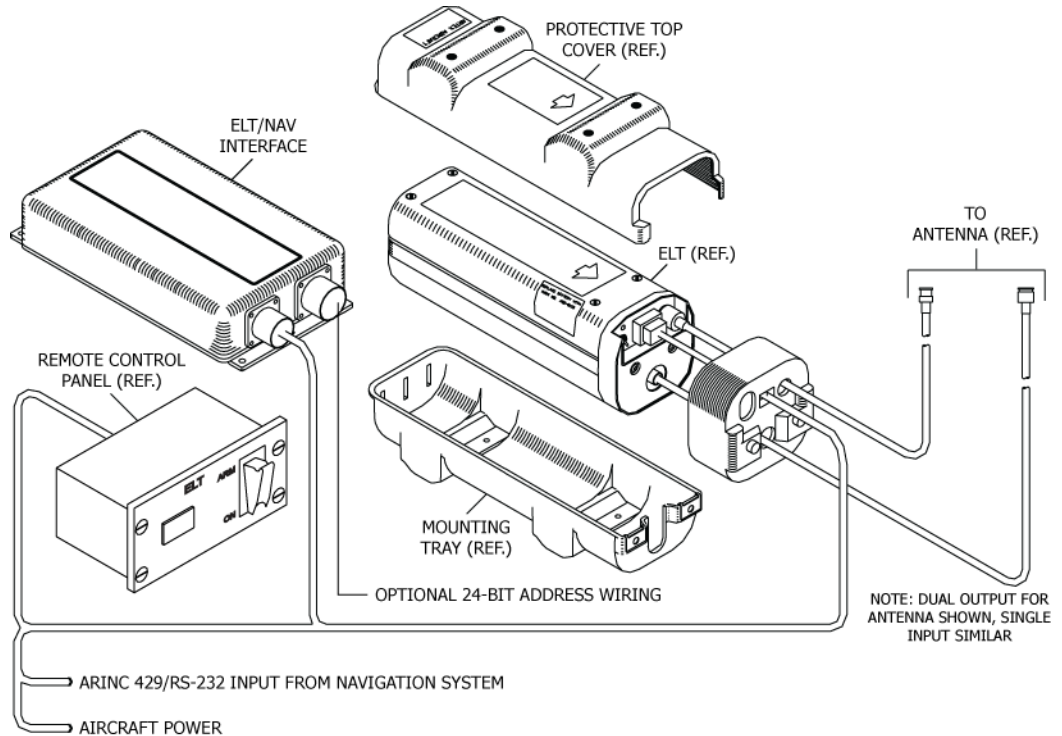

Figure 1 ELT/NAV Interface -B System Integration
- 1) The ELT/NAV Interface -B is integrated into the ELT system. See Figure 1 ELT/NAV Interface -B System Integration.